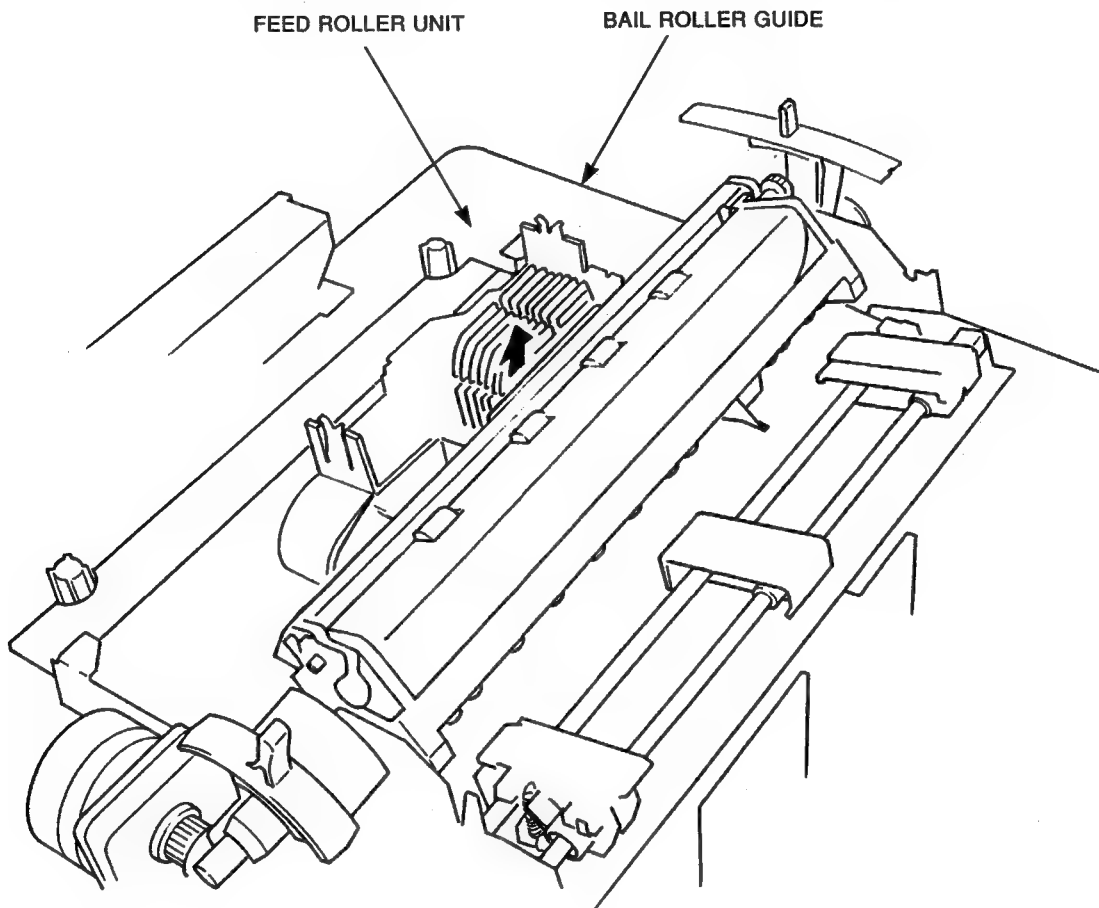

Figure 3-31 Feed Roller Unit
1. Pull the feed roller unit up to remove it (see Figure 3-31).